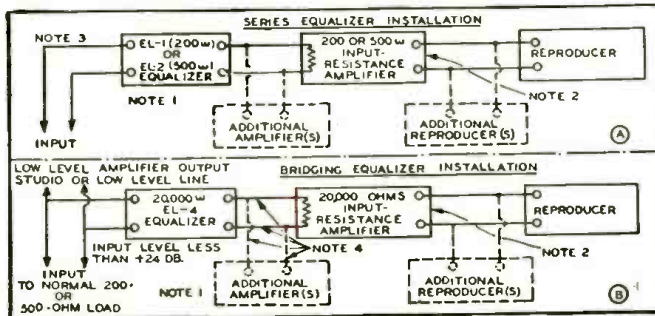

Fig. 3. Two types of equalizers for series and bridge connection.
The connection diagrams in Fig. 3 illustrate one use of this Equalizer in two types of circuits: (1) direct input line; and (2) trunk line. From the nature of their use, the terms "series" and "bridging," respectively, have been applied to the two Equalizers required. With a single input line to the amplifier from the microphone, the equalizer should be inserted either ahead of the amplifier, or between the preamplifier and amplifier. In either case, it is essential that the impedance of the line (or output impedance of the preamplifier) and the input resistance of the amplifier properly match the input and output values provided in the equalizing unit. The series equalizer is available in two models, one for 500-ohm lines, and the other for 200-ohm lines. The use of the bridging type is indicated in those installations where a main input or trunk line of low impedance, to which it is desired to connect the equalizer, also serves other equipment at line impedance. For this purpose, the device is designed with a high-impedance input and output on the order of 20,000 ohms, drawing negligible power on the input and therefore not appreciably altering the impedance of the system.
The following notes refer to Fig. 3: